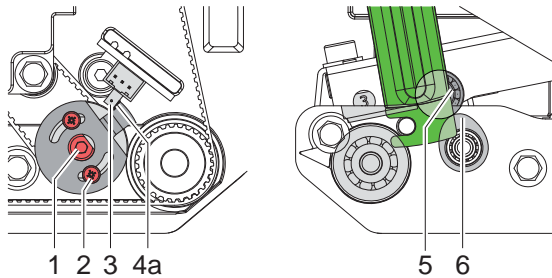
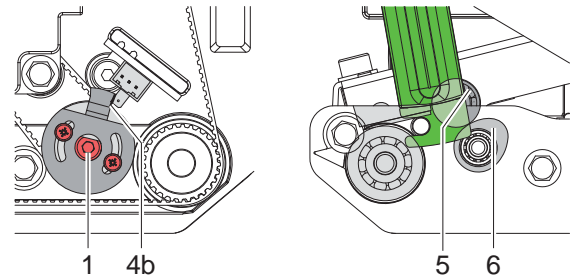

Fig. 29 Eccentric in saver mode
Fig. 30 Eccentric in print mode
▷ Fig. 29 right side.
6. Adjust a gap of ca. 1 mm between flange (4a) and the edge of the sensor housing (3) by turning the clock wheel ▷ Fig. 29 left side.
7. Tighten screws (2).
8. Turn axle (1) in such a way that there is a gap of 1 mm between flange (4b) and the other edge of the sensor housing ▷ Fig 30 left side.
9. Check the distance between ball bearing (5) and eccentric (6) with the caliber 0.1 mm (7).